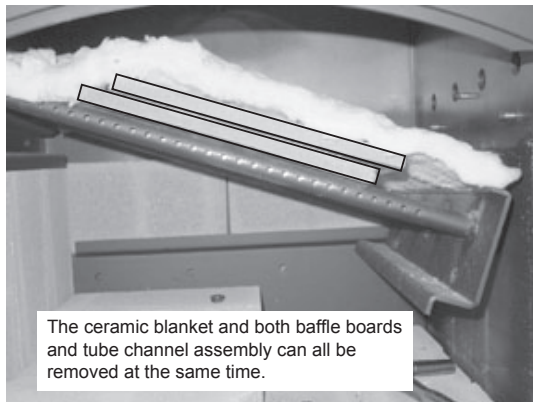

Figure 26.2
4. Slide the tube channel assembly to the left as far as it will go and lower the right side. Remove the baffle boards and ceramic blanket together (**Figure 26.2**).